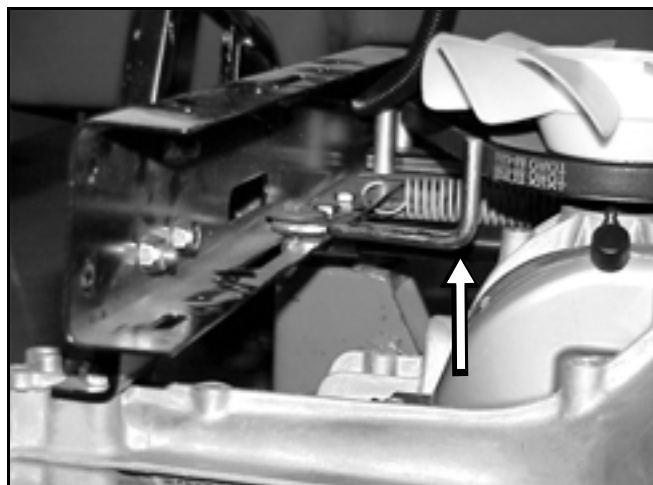

Figure 122
3. Loosen the left transaxle belt guide (Figure 122).